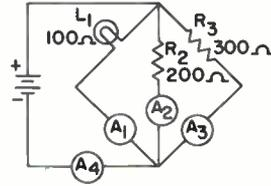
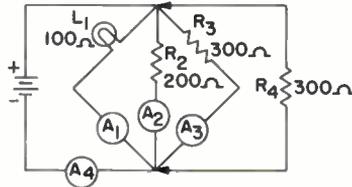

Fig. 18
Fig. 19
- (1) 20 mA (2) 5 mA (3) 10 mA (4) 15 mA
5. Which ammeter in Fig. 18 will read the least current?
- (1) A_4 (2) A_3 (3) A_2 (4) A_1
6. If in the circuit of Fig. 18, A_1 reads 30 mA; A_2 reads 15 mA; and A_4 reads 55 mA, then A_3 reads
- (1) 45 mA. (2) 30 mA. (3) 20 mA. (4) 10 mA.
7. If the voltage across the 300- Ω resistor in Fig. 18 is 3 V, the voltage across the lamp is
- (1) 4.5 V. (2) 3 V. (3) 2 V. (4) 1 V.
8. If another parallel branch were added to the circuit of Fig. 18 by connecting another 300- Ω resistor as shown in Fig. 19, the current read on A_4 would